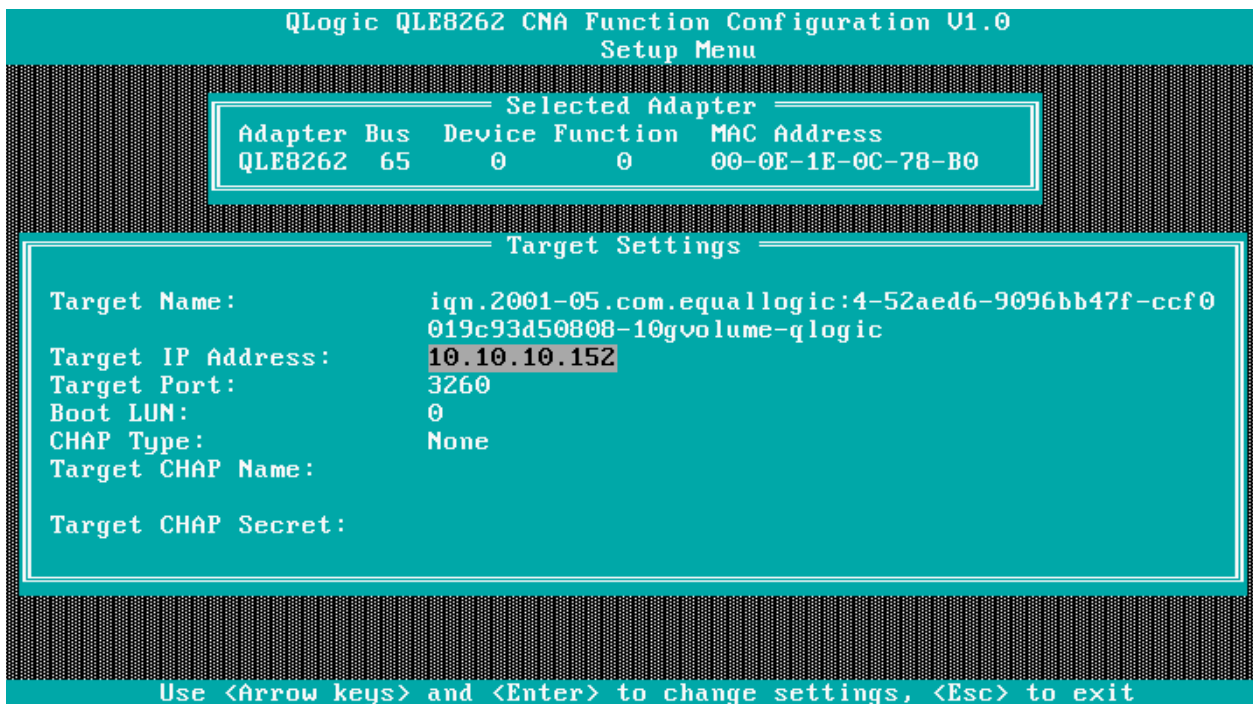

Figure 8 Target Settings for QLogic network adapter
- Exit the **Initiator Settings** menu and open the **Target Settings** menu. Enter the **Target Name** (or IQN for the volume in Appendix A), Target IP, and Target Port (3260) as shown in Figure 8.